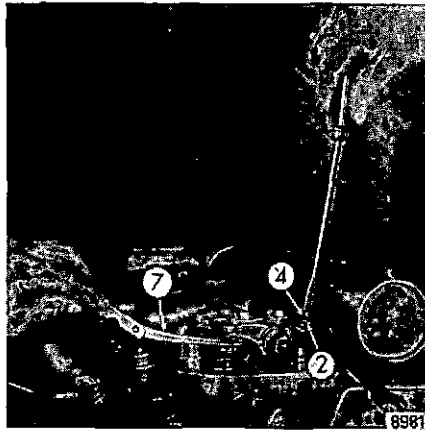

Fig. 29
(Fig. 29 and 30)
**Check clearance with engine cold by means of a 0.15 mm (0.006 in.) feeler gauge 7 (Fig. 29).** To do this, turn crankshaft at front end until the piston of the cylinder in question reaches the compression dead center. i. e. after overlapping of both valves (exhaust valve about to close, inlet valve about to open), go on turning the crankshaft through 360°, corresponding to a complete revolution. Valve clearance 1 is correct when the feeler gauge can be inserted with a slight drag in the gap 1 between rocker arm 9 and valve 5, both inlet and exhaust. If not, loosen lock nut 2 of adjusting screw 4 through one or two turns and adjust by means of a screw driver.